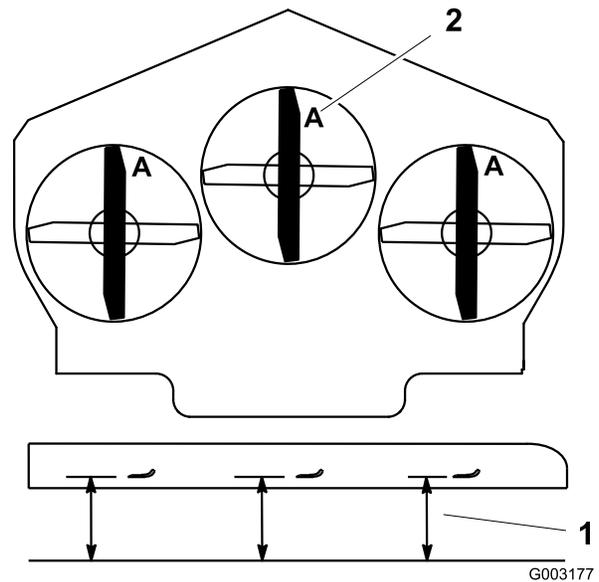

Figure 83
3. Rotate the blades until the ends face forward and backward (Figure 83). Measure from a level surface to the cutting edge, position A, of the blades (Figure 83). Note this dimension.